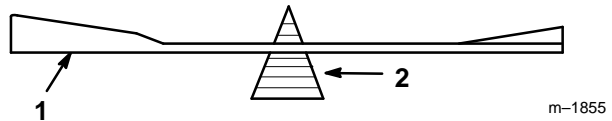

Figure 60
2. Check the balance of the blade by putting it on a blade balancer (Fig. 60). If the blade stays in a horizontal position, the blade is balanced and can be used. If the blade is not balanced, file some metal off the end of the sail area only (Fig. 53). Repeat this procedure until the blade is balanced.